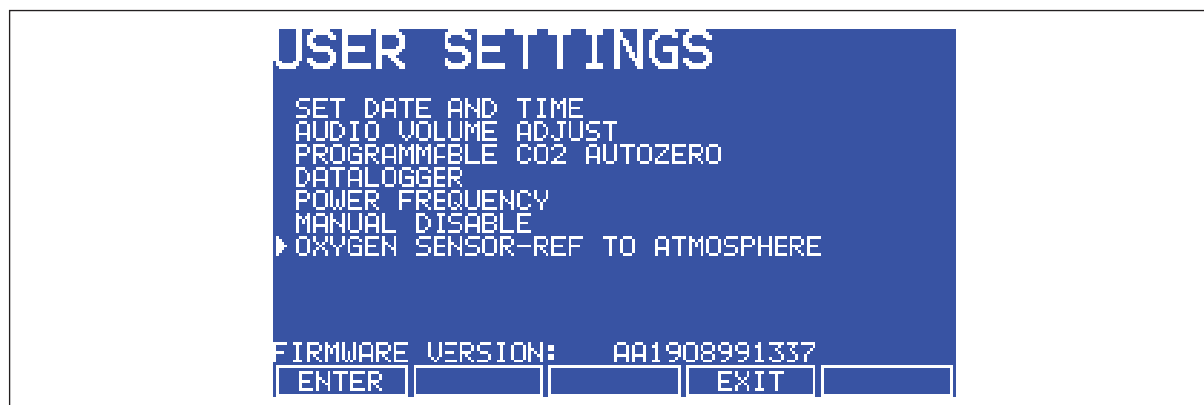

Fig. 13-1: Selecting OXYGEN SENSOR-REF TO ATMOSPHERE
4. After the incubator has been humidified and left overnight to stabilize, select the **USER** menu; then, using the ▲ or ▼ direction key, select **OXYGEN SENSOR-REF TO ATMOSPHERE** (see Fig. 13-1 on p. 86) and follow the onscreen instructions to automatically calibrate the oxygen sensor to atmospheric oxygen levels. The oxygen reading is automatically adjusted to 19.7 %, which is the true reading taking into account the relative humidity level. It takes several minutes.
The oxygen sensor is a self-powered electrochemical cell that has a finite life dependent on the ambient oxygen level. A typical lifespan is 1 - 2 years at atmospheric levels. During the sensor's lifespan, the signal produced slowly degrades until it is ultimately unusable. For this reason, we recommend that you reference the sensor to atmospheric oxygen levels on a monthly basis (see Fig. 13-1 on p. 86).